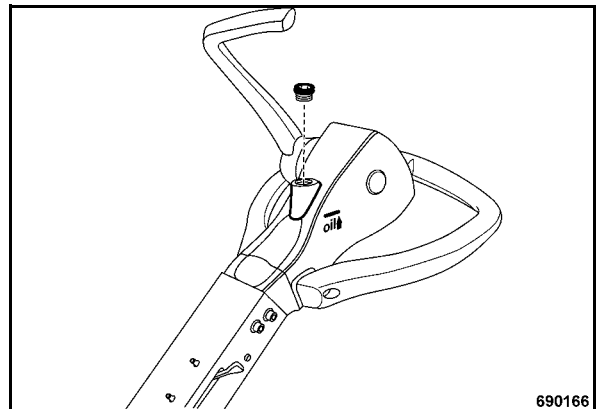

Fig. 68
- Adjust the steering rod with height adjustment (Fig. 68) so that the area with the level inspection plugs is horizontal.